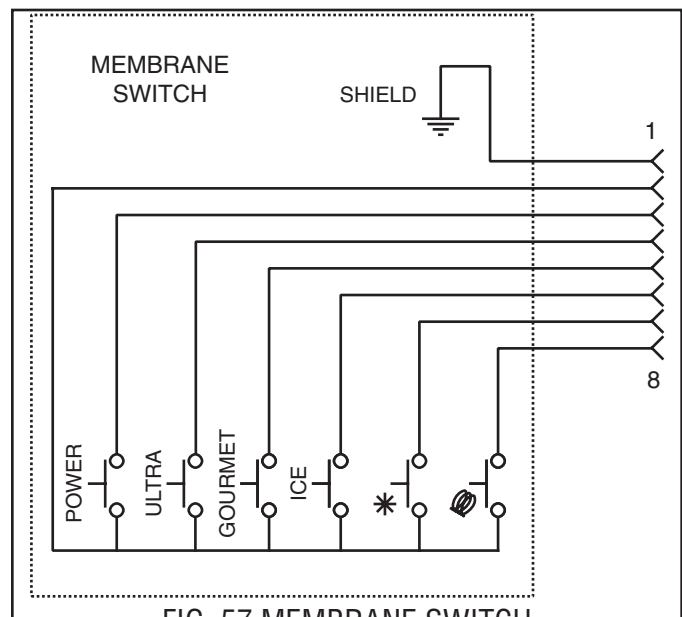

FIG. 57 MEMBRANE SWITCH
7. Refer to Fig. 57 and connect the ribbon cable to the Control Board.